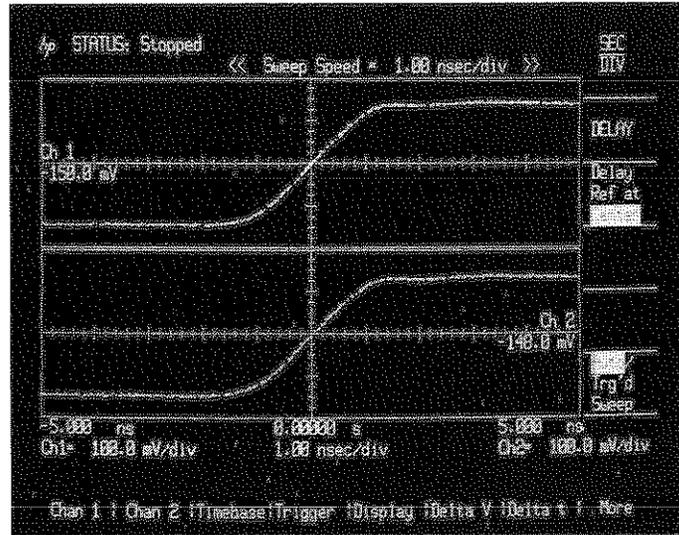
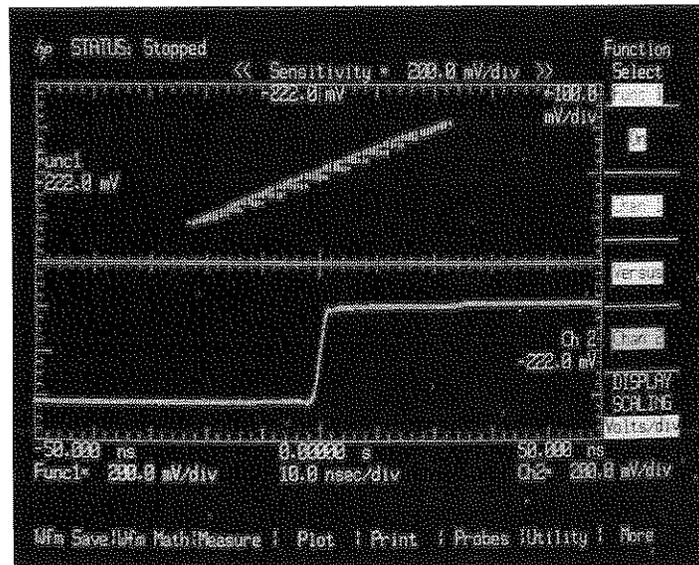

Figure 7-31. Precise Timing Resolution on Channels 1 & 2.
Figure 7-34. Chan 1 Versus Chan 2 with Low Timing Resolution.
4. Select the Timebase menu and set the SEC/DIV to 1 nsec/div (Figure 7-31). Notice the precise time resolution (number of data points) on the edges.
7. Return to the Wfm Math menu and turn Func 1 on. The resulting chan 1 versus chan 2 (top of Figure 7-34) shows rectangular steps that occur when insufficient edge resolution is used. This is a result of the random repetitive sampling technique used in the 54100A/D, where by, many voltage points can be taken in the same time interval (as referenced to the trigger). Channel to channel timing skew may further aggravate this situation. To eliminate this phenomena, you should increase time resolution on the edges as shown in figures 7-31 and 7-32. These expanded waveforms allow for more data points on the given waveforms. The increased number of data points on the waveforms reduces the potential for inaccuracies of the displayed waveform.